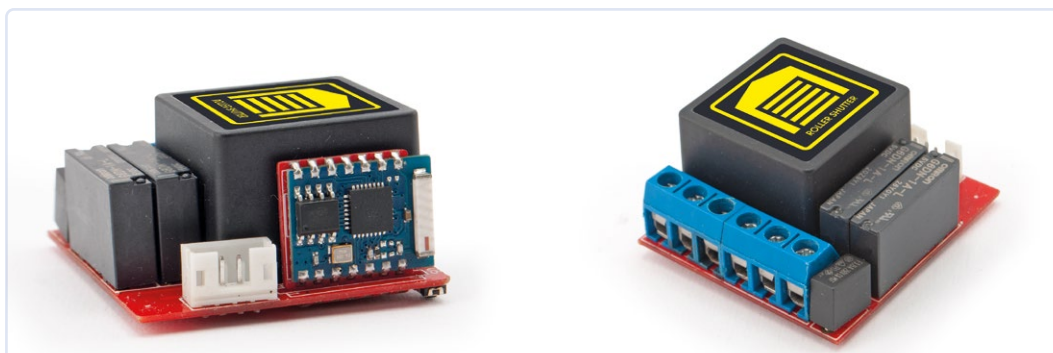

Figure 3: Mounting the ESP03 module upright on the PCB. The other side shows the screw terminal blocks for the connections.
- > To save space, tin the ESP03 module (U5) on its adapter PCB before mounting it vertically, as demonstrated in **Figure 3**.